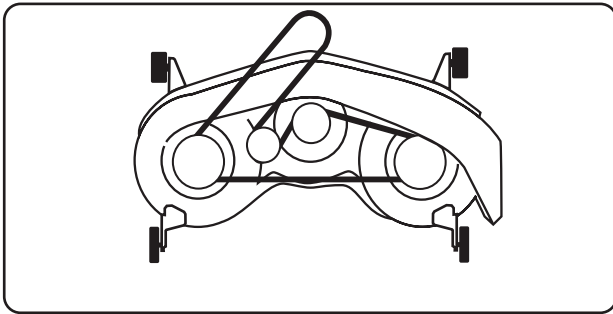

Figure 8.19
- For a 46" "H" deck, See Figure 8.19.